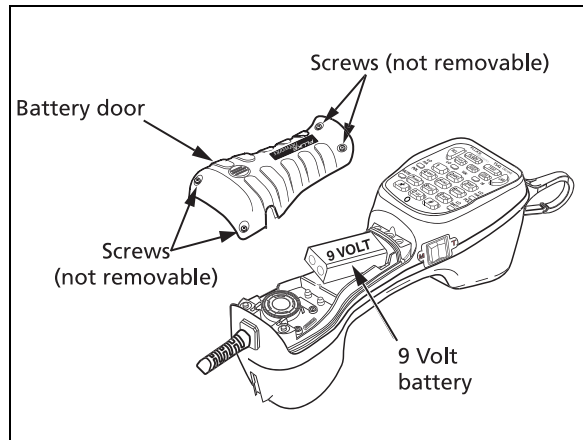

Figure 4. Battery Replacement
See Figure 4.
- 1 Using a Phillips screwdriver, loosen only the four screws attaching the battery door cover to the back of the test set (See Figure 4).
- 2 Remove the battery door cover (see Figure 4) and battery from the test set.
- Place the battery door cover on the test set and fasten the four screws (see Figure 4). Tighten screws to a maximum torque of 0.904 N-m or 8 in-lb.